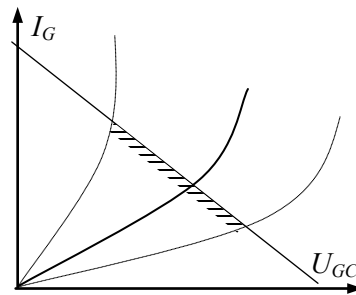

Fig. 1.50
**Input characteristics.** Fig. 1.50 illustrates the input characteristics of the thyristor. The curves show the relation between the gate current and the gate voltage. This relation has a broad coherence area with a width that depends on the temperature and design properties of the device.